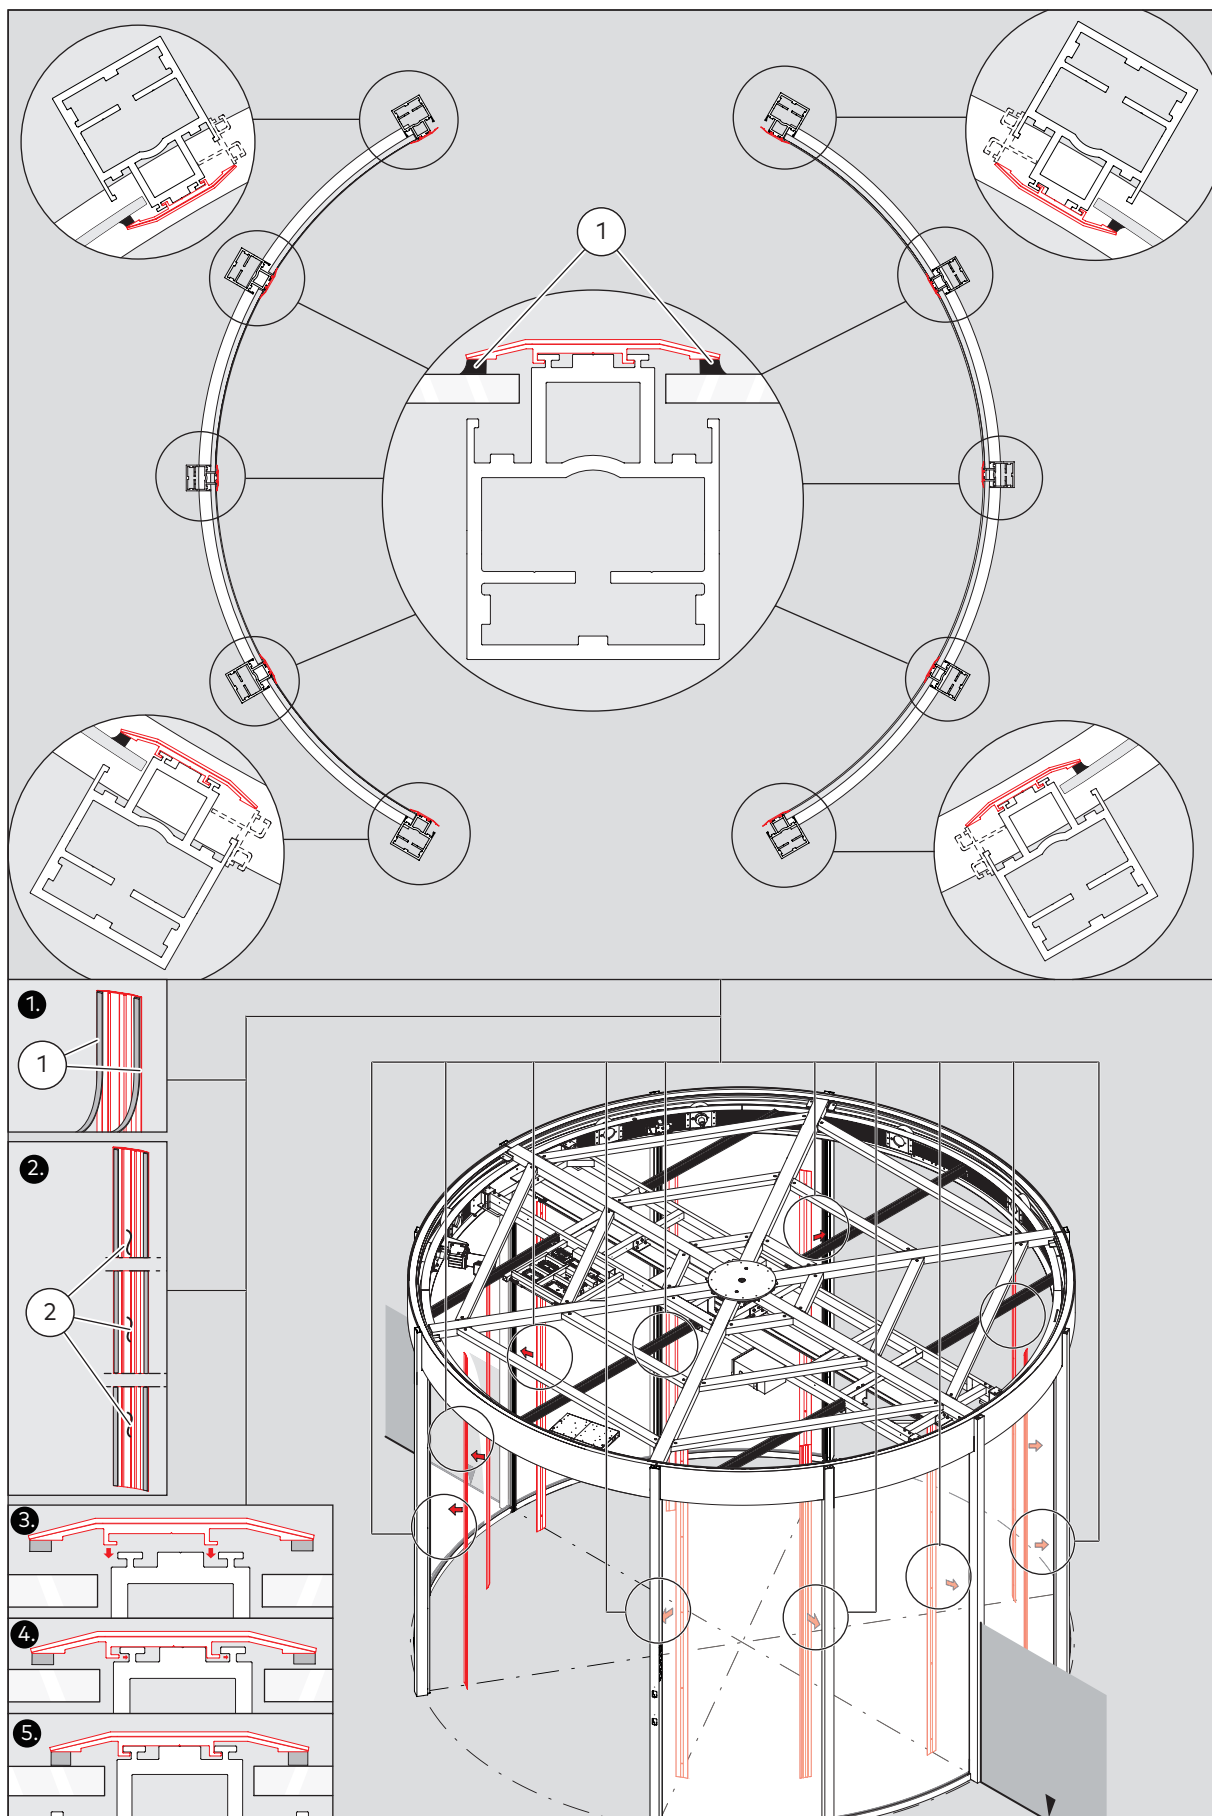

Fig. 61 Mounting the covers
1. Use the foam sealing tape (Fig. 61/1) and silicone (Fig. 61/2) to mount the covers.